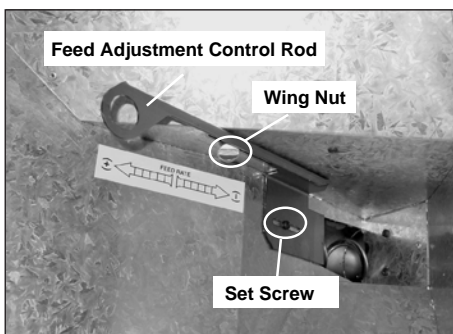

Figure 10.2
- Adjust the feed adjustment control rod upward towards the “+” symbol to increase the feed rate and flame height or down towards the “-” symbol, to decrease the feed rate and flame height. **Figure 10.2.**